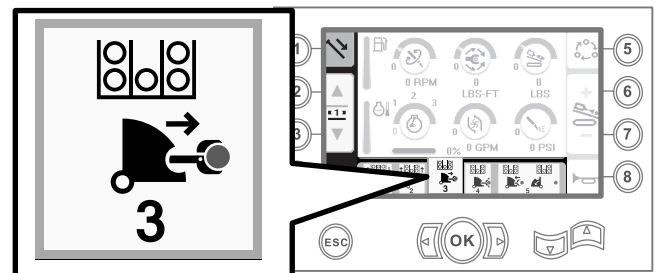

Figure 31
6. Release the rocker switch to proceed to the next step in the sequence (Figure 31).